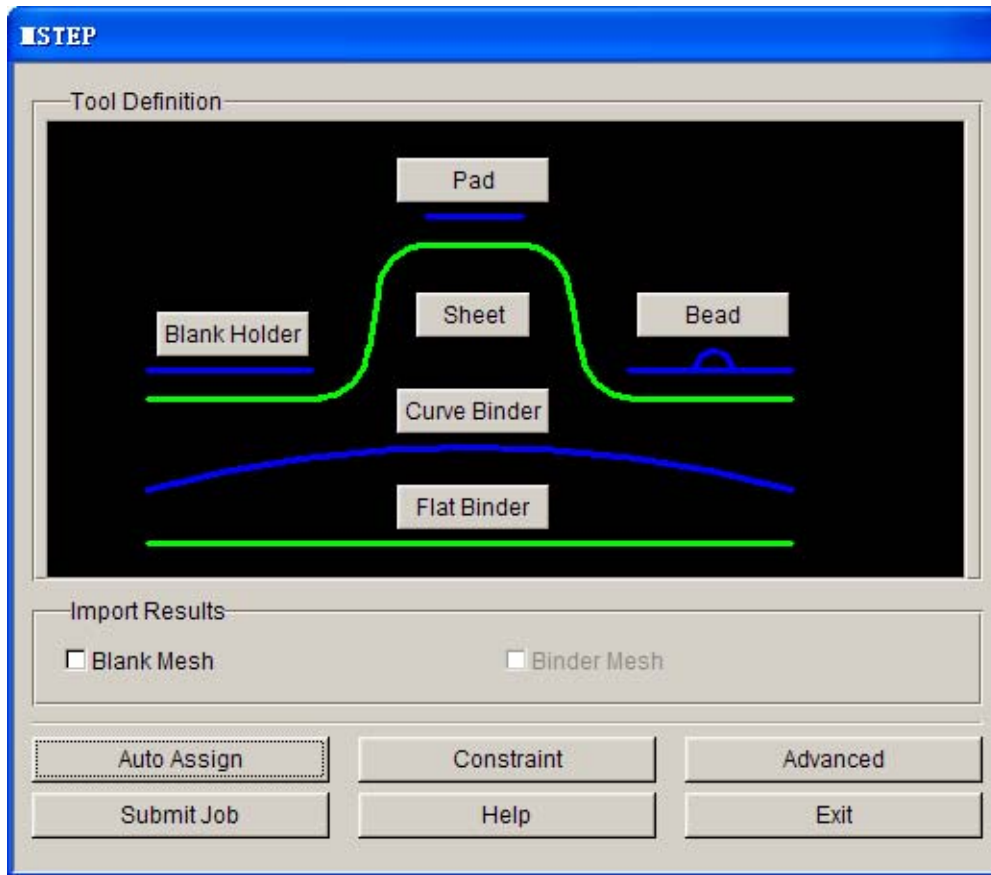

Figure 1.29: MSTEP GUI after sheet definition
- 8) Click OK button in Define Blank dialogue box to return to MSTEP dialogue box. Contour line in the dialogue box that represent the sheet change from red to green. It means the sheet tool is already defined as shown figure 1.29.